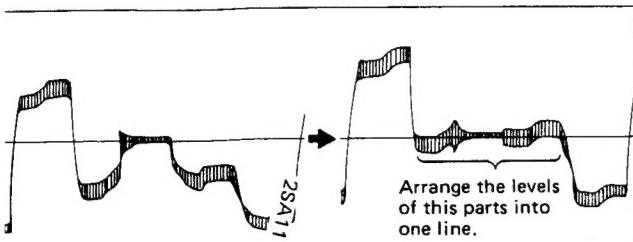

Fig. 5-16
- Connect probe of oscilloscope to TP-64 and adjust T305 for the waveform shown in Fig. 5-16.